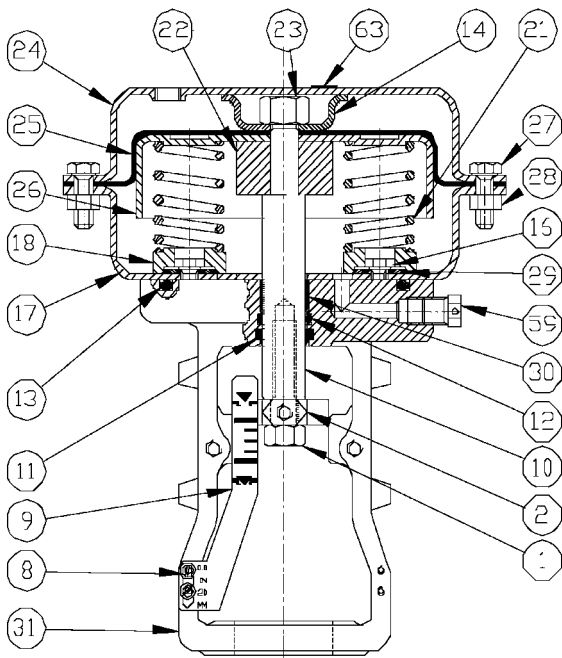

Figure 8
- G. Remove tension bolts (four remaining 27 and 28) in multiple steps to relieve spring tension gradually. Remove upper diaphragm case (24).
- H. Remove hex nut (23) and spacer (14), Figure 8
- I. Remove the diaphragm (25), diaphragm plate (26), spacer (22), springs (21) and spring spacers (18) if used, Figure 8.